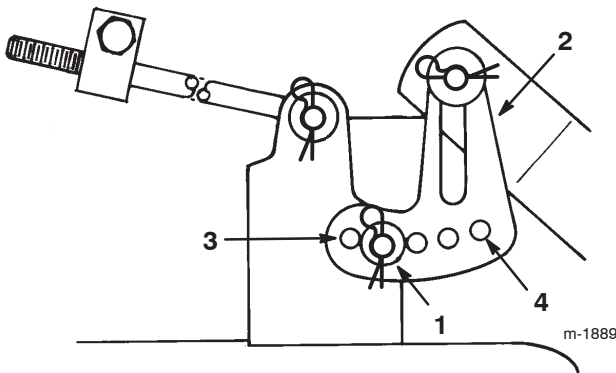

Figure 47
- 6. Remove the hairpin cotter and washer from the leveling bracket (Fig. 47). To level the blades, reposition the leveling bracket in a different hole and install the washer and hairpin cotter (Fig. 47). A front hole lowers the blade height and a rear hole raises its height. Repeat this procedure on the opposite side of the mower.